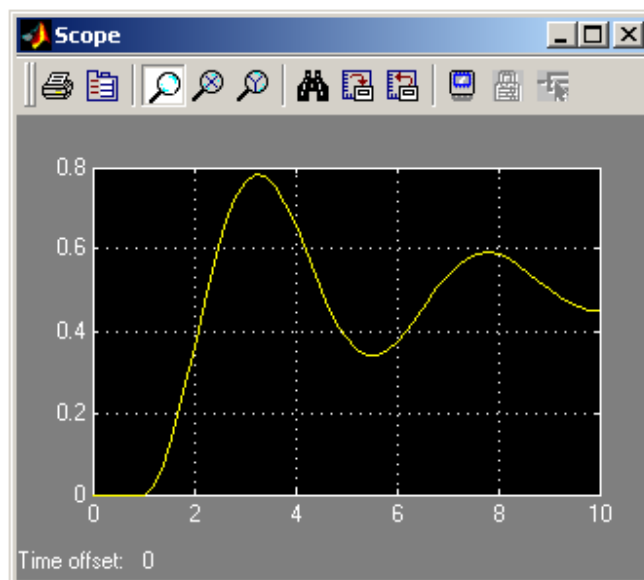

Figure 13: Simulated response of system from scope block
21. We would like to look at the response of the system using the scope. Double click on the scope block to open it up. Autoscale the plot so that you can see the response (the autoscale button looks like a pair of binoculars). You should see something similar to Figure 13.